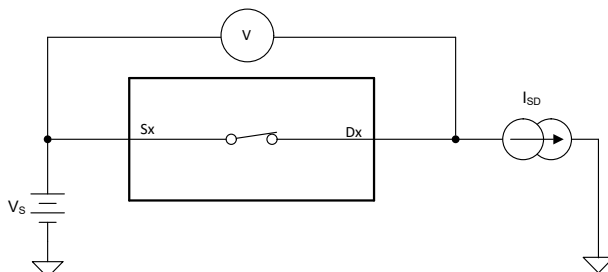

图 7-1. On-Resistance Measurement Setup
The on-resistance of a device is the ohmic resistance between the source (Sx) and drain (D) pins of the device. The on-resistance varies with input voltage and supply voltage. The symbol R_{ON} is used to denote on-resistance. 图 7-1 shows the measurement setup used to measure R_{ON} . Voltage (V) and current (I_{SD}) are measured using this setup, and R_{ON} is computed with $R_{ON} = V / I_{SD}$.